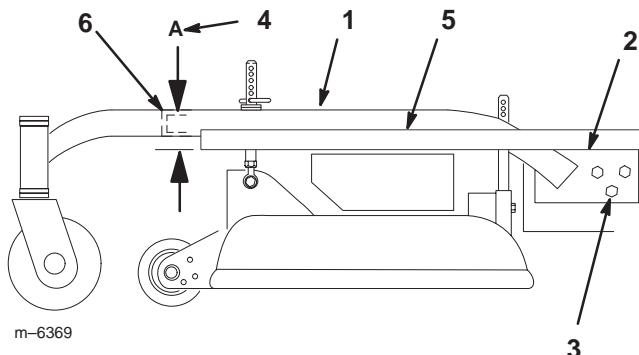

Figure 62
3. Place a long straight edge on top of the engine deck as shown in figure 62.
4. At the carrier frame cross tube, measure location A height (Fig. 62). This measurement must be 1–5/16 inch (33 mm), plus or minus a 1/4 inch (6 mm).
6. Loosen the carrier frame mounting bolts on both sides of the machine (Fig. 62).
7. Align the carrier frame and engine deck to match 1–5/16 inch (33 mm), plus or minus a 1/4 inch (6 mm) at location A (Fig. 62).